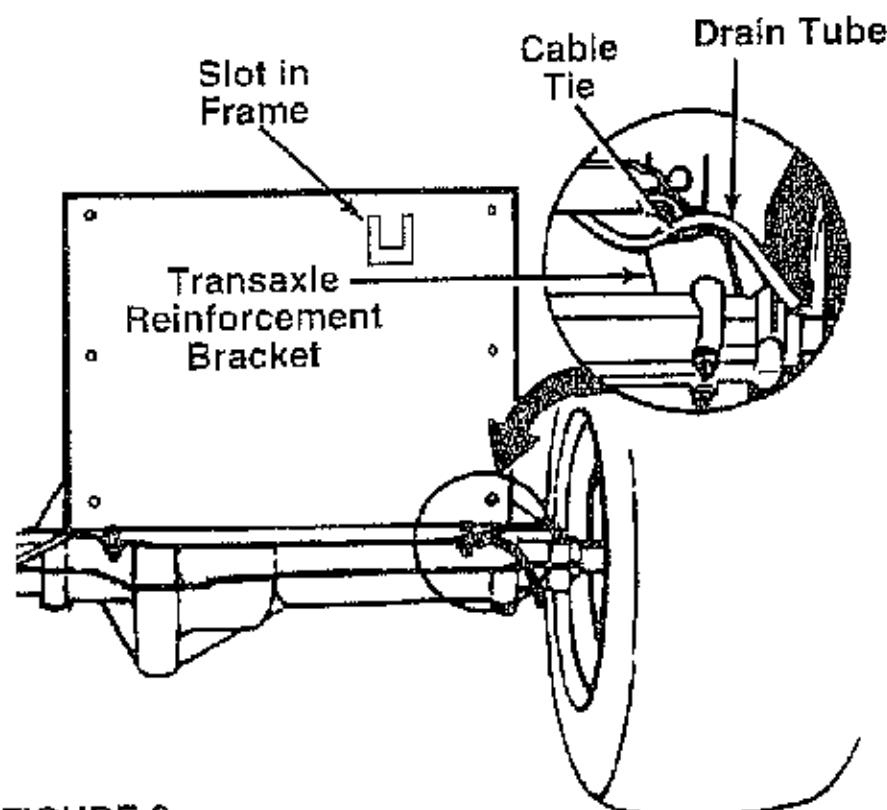

FIGURE 6.
6. Secure battery by hooking battery strap into slot in rear frame, under the fender. See figure 6.